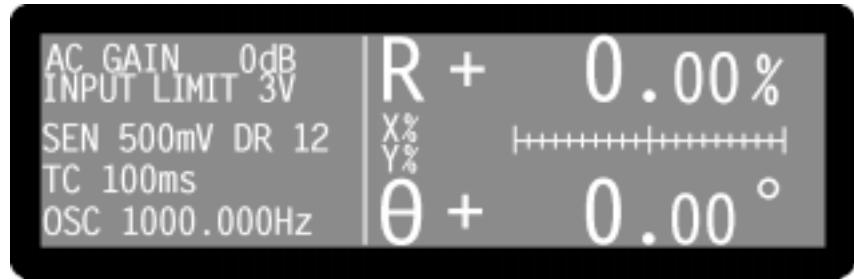

Figure 2-5, Main Display
- 7) Press one of the keys adjacent to the Auto Default menu item. This will set all the instrument's controls and the display to a defined state. The display will revert to the Main Display, as shown below in figure 2-5, with the right-hand side showing  $R$ , the vector magnitude, and  $\theta$ , the phase, of the measured signal in digital form, with two bar-graphs showing the X channel output and Y channel output as a percentage of the full-scale sensitivity. The left-hand side shows four instrument controls, these being the AC Gain and dynamic reserve (DR) in decibels, full-scale sensitivity (SEN), output time constant (TC) and internal oscillator frequency (OSC).